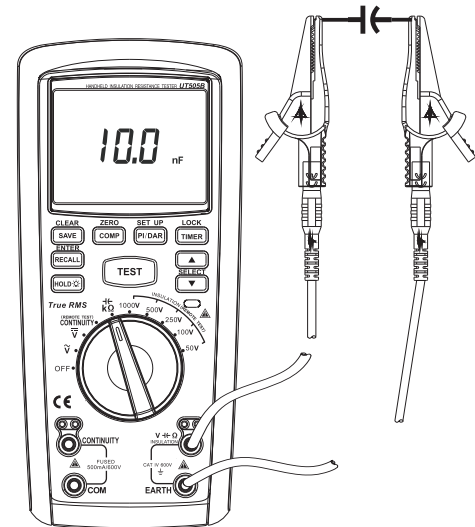

Figure 8
4.2 Measuring of Capacitance (See Figure 8)
- ① Insert the red probe into “V” jack (red jack), and black one into “EARTH” jack (black jack).
- ② Rotate dial switch to “KΩ/⚡” tap position and connect the probe to two ends of tested capacitance in parallel.
- ③ Press “▼/SELECT” to select capacitance tap position.
- ④ Read current measuring value of capacitance from the display.
- ⑤ In measuring, if intending to save measured capacitance, press the key of “SAVE/CLEAR” for saving.